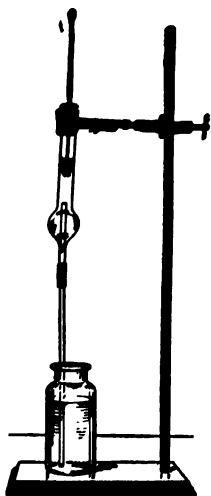

FIG. 26
2. Assemble the model lift pump as shown in figure 26. See that the piston of sheet rubber fits the tube closely. Try to raise water from the bottle by moving the dry piston up and down. Pour some water on top of the piston and try to operate the pump. Improve the pump action until water flows from the spout at each upward stroke.
3. Note the three stages of operation as follows: (1) action on downstroke; (2) upstroke; (3) action of valves in (1) and (2).